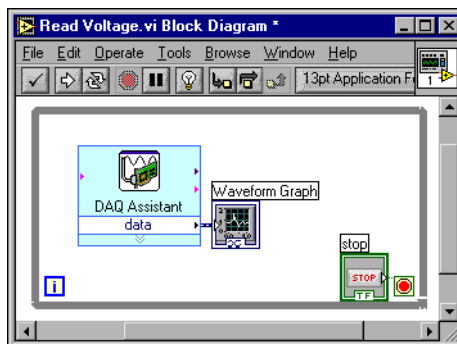

Figure 4-2. Block Diagram for the Read Voltage VI
8. Place a While Loop around the DAQ Assistant Express VI and the graph indicator wired to the **data** output. The block diagram should appear similar to Figure 4-2.